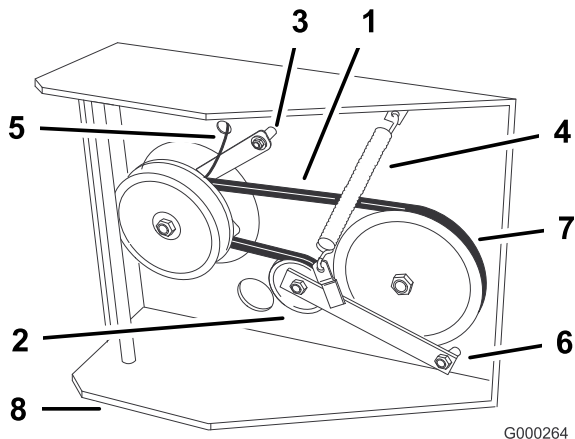

Figure 43
7. Disconnect clutch retainer from the engine deck (Figure 43).
8. Unhook tension spring from side of frame (Figure 43).
11. Torque pivot bolt to 35-40 ft-lb (47-54 N-m). Install tension spring between idler arm and frame bracket (Figure 43).
12. Install clutch retainer to the engine deck (Figure 43).